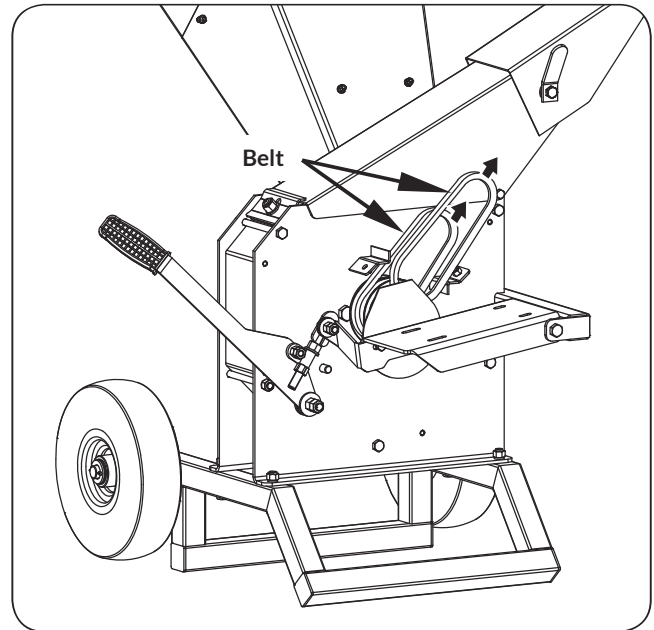

Figure 28
5. Slip the old V-belts from the engine pulley and cutting disk pulley then install the new V-belts. Align the engine pulley and cutting disk pulley by moving the cutting disk pulley in or out on the rotor shaft. Do not adjust by attempting to move the engine pulley on the engine shaft. (See **Figure 28**)